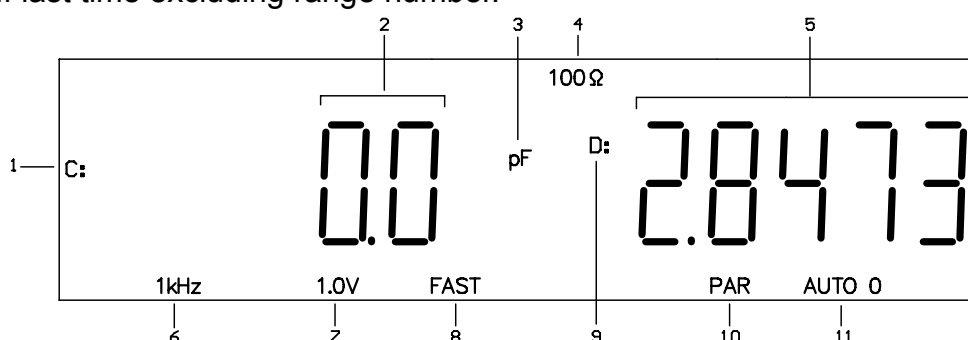

Figure 3.1 LCD Display in Measurement Status
- 3) The instrument enters the measurement status after a short delay. Figure 3.1 shows the information displayed in measurement status. It may be different with the actual display due to different measurement setup.